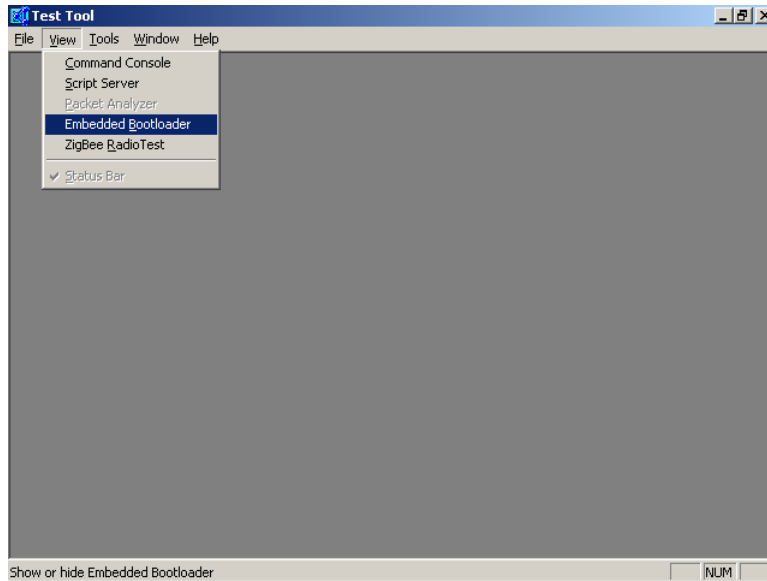

Figure 3-3. Test Tool Window (Choosing Embedded Bootloader)
10. As shown in Figure 3-3, launch the Embedded Bootloader from the Test Tool window toolbar by clicking on View->Embedded Bootloader.